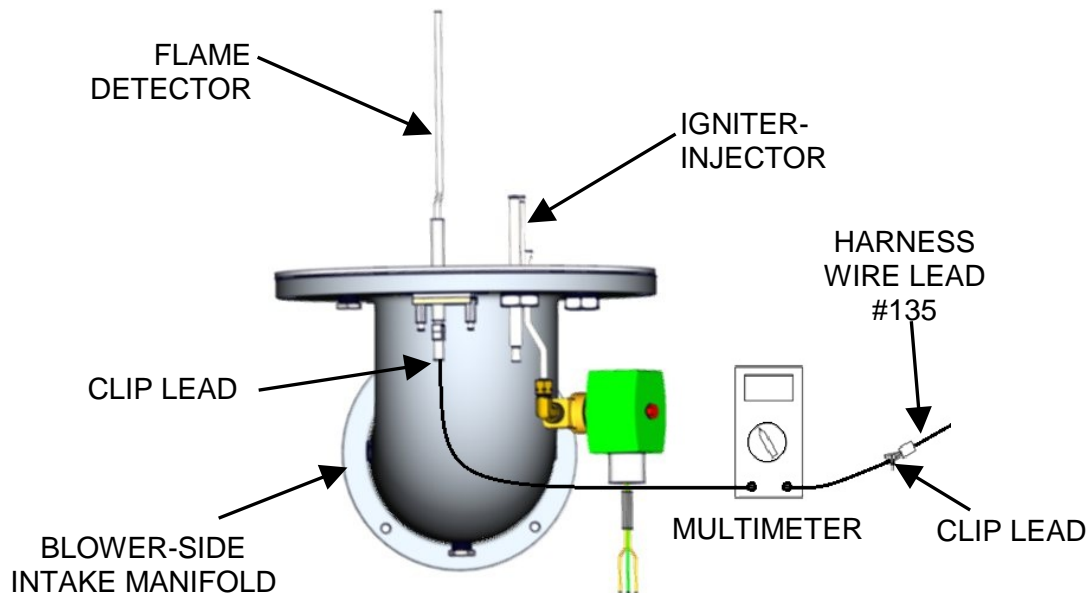

Figure 4-3. Flame Strength Set-Up Using Multimeter
During Combustion Calibration, the flame strength generated by the flame detector is measured using a multimeter set to the μA scale. The flame detector is mounted on the flange of the blower side intake manifold as shown in Figure 4-3.
1. Refer to Figure 4-3 and remove the right side panel from the unit to access the flame detector.
2. Disconnect the flame detector wire lead 135 from the detector and connect the multimeter in series with the wire lead using alligator clips as shown in Figure 4-3.